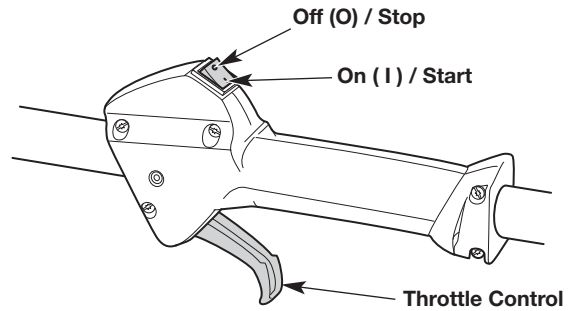
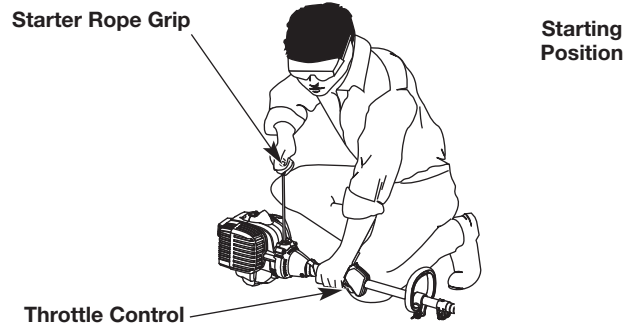

Fig. 7
Fig. 9
WARNING: Avoid accidentally starting the unit. To avoid serious injury, the operator and the unit must be in a stable position when pulling the starter rope (Fig. 9).
NOTE: There is no need to turn the unit on. The On/Off switch is in the ON (I) position at all times (Fig. 7).
5. Crouch in the starting position (Fig. 9).
6. Squeeze the throttle control (Fig. 7) and pull the starter rope with a controlled and steady motion **5 times** (Fig. 9).
2. Press and hold the On/Off switch in the OFF (O) position until the engine comes to a complete stop (Fig. 7).
7. Squeeze and hold the throttle control (Fig. 7). Run the electric start accessory for 2 seconds.